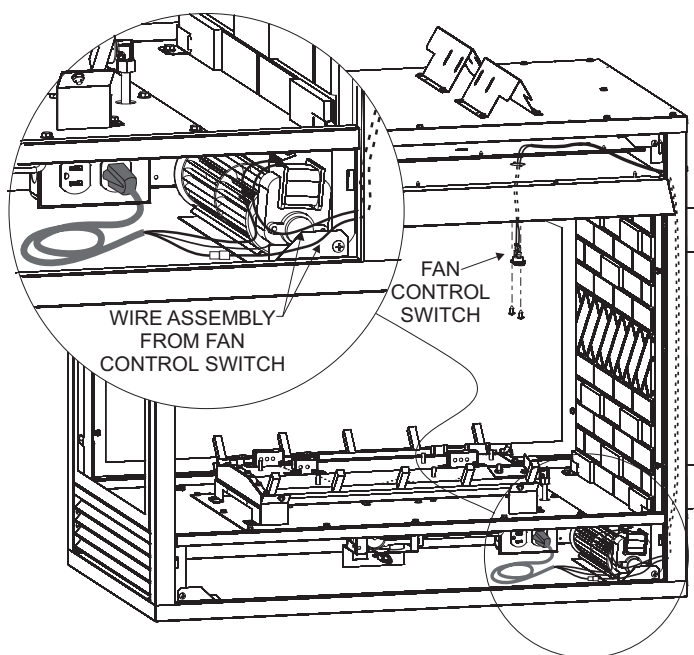

Figure 22
6. Next, find the fan control switch and wire assembly. Feed the wires through the hole at the top of the firebox, and secure the fan control switch with two (2) #6 screws (provided). The fan control wires will slide down between the firebox and outer wrap near the blower assembly. See Figure 22.